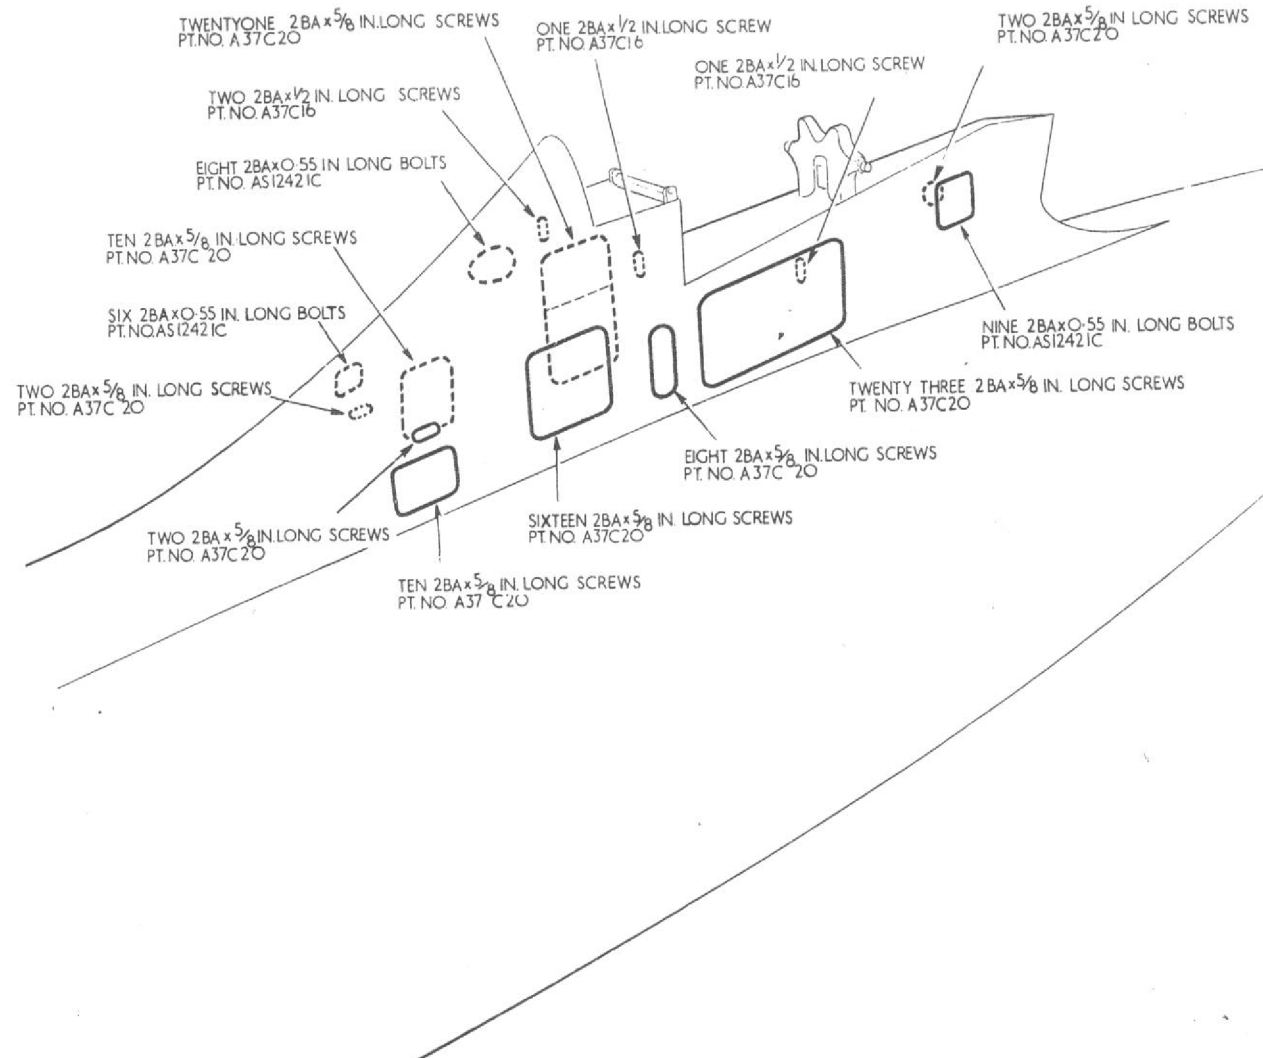

Fig.6 Dorsal fin access panels attachment fixings
*The screws and bolts required for the attachment of the dorsal fin panels are detailed in fig.6.*